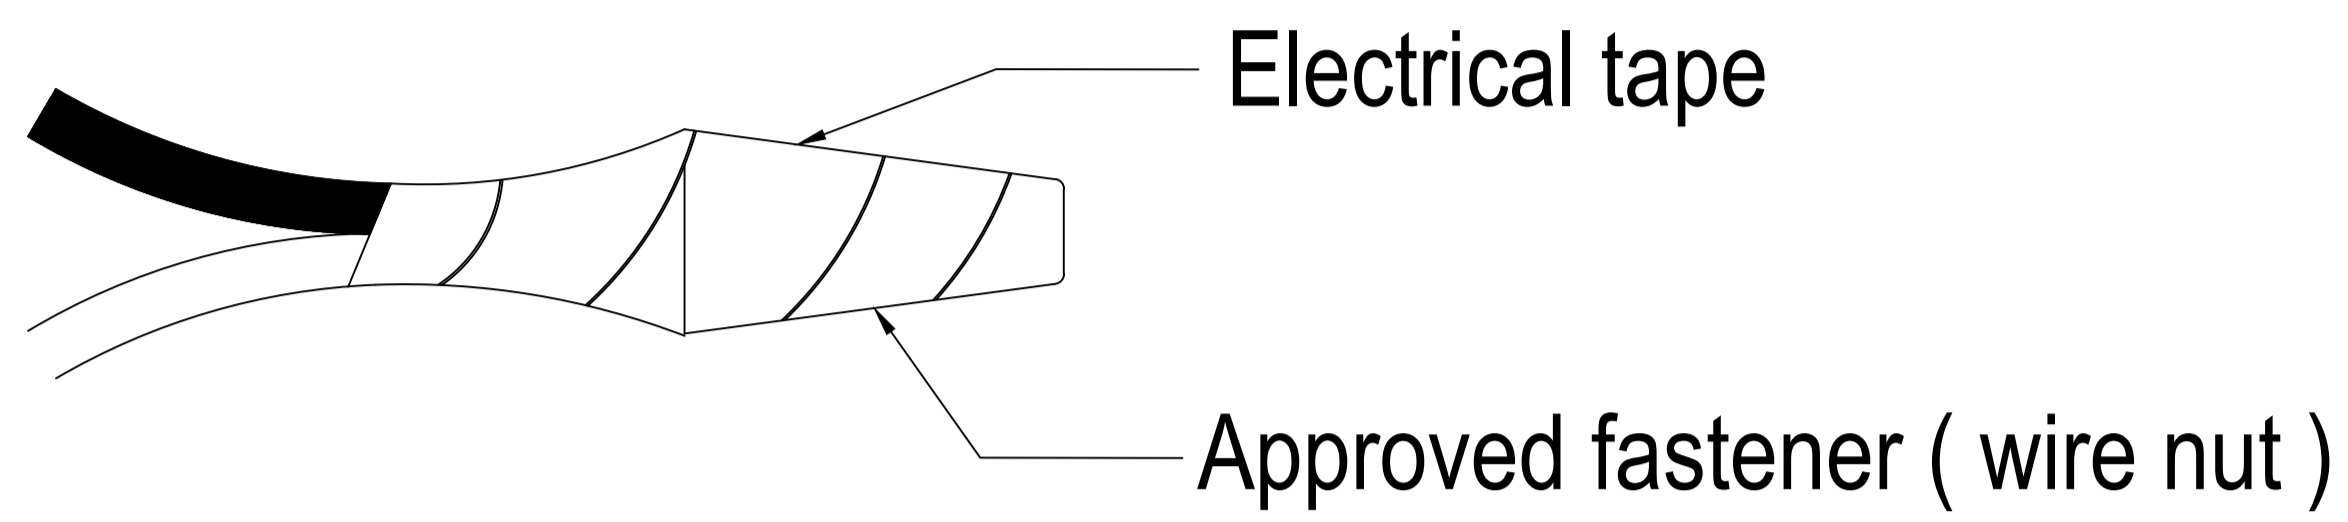

**FIGURE-01**
1. Attach the mounting plate to the outlet box. (The green screw should face against the wall). Adjust the threaded stud so they extend 3/16" beyond the backplate. (See Figure-01)